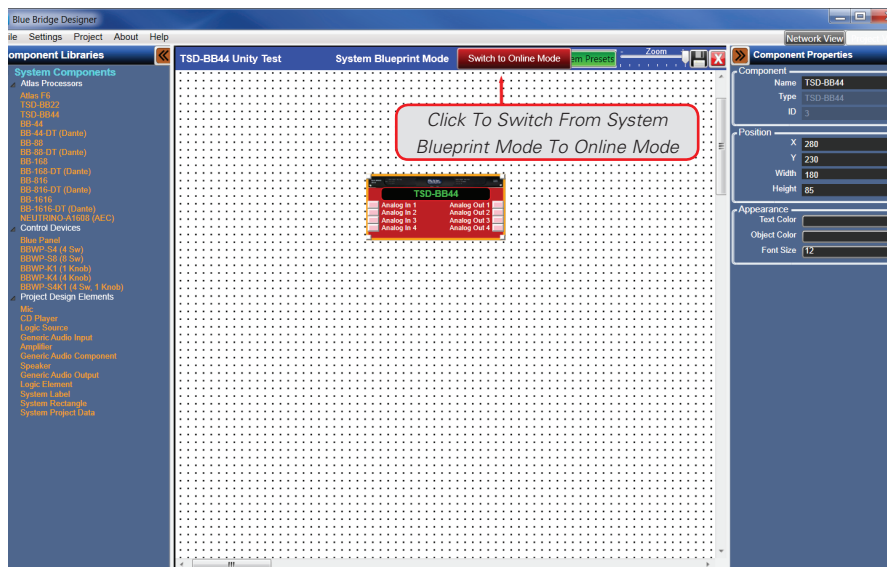

Figure 16
- Click the button "Switch to Online Mode" to go from System Blueprint Mode (Functional Wiring Diagram) to Online (Live) mode, in the menu bar as shown in Figure 16.